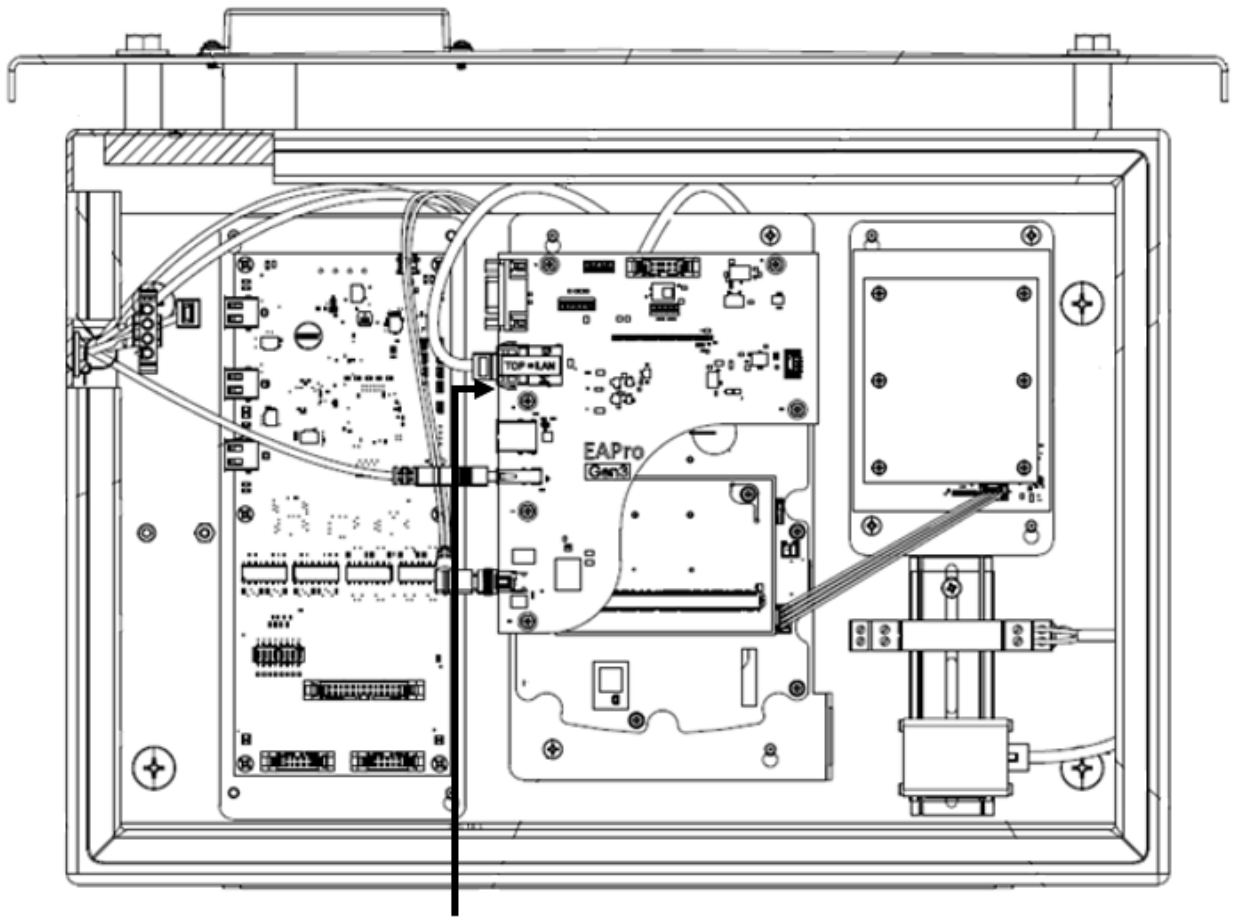

Figure 33 Ethernet Connection Terminated with an RJ-45 Connector on the EAPro Assembly
- 2 Terminate the ethernet connection at the RJ-45 connector on the EAPro assembly (Figure 33 page 44).